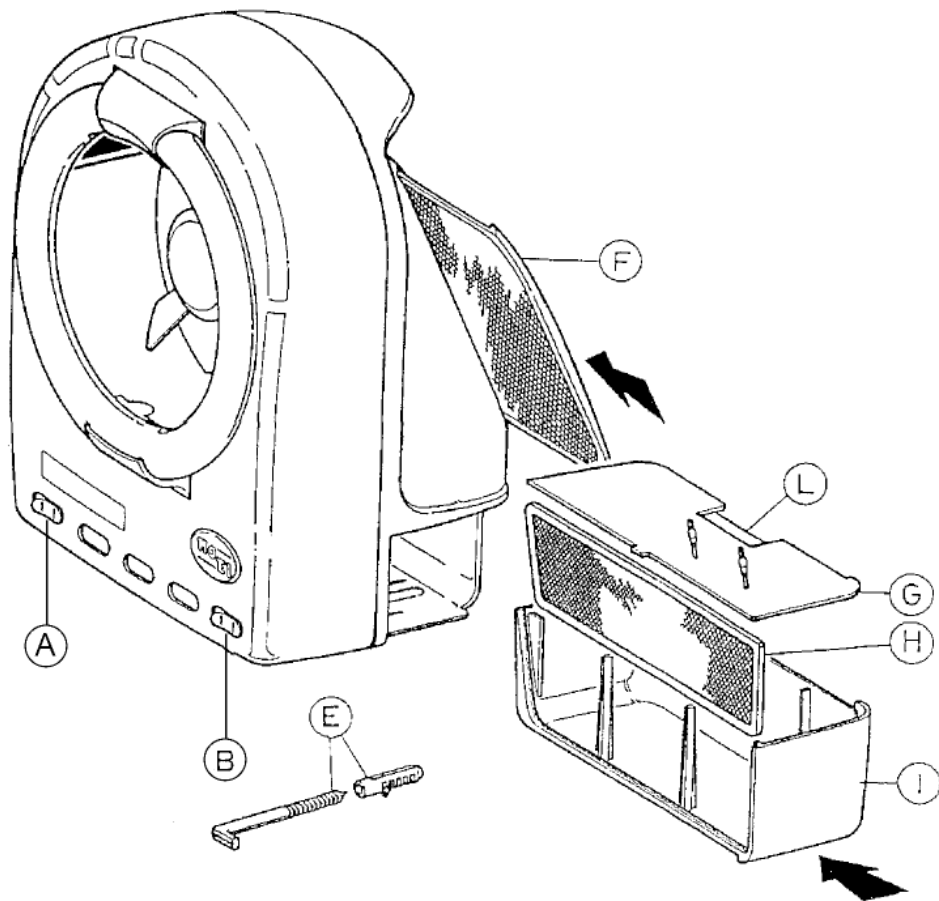

Fig.1
2. Remove all packing materials from the unit, to avoid danger of suffocation, keep it away from babies and children. If received by mail, install the filters **F** and **H** and the trap cover **G** as shown in Fig.1.
3. Si vous avez reçu le produit par la courrier, montez les filtres **F**, **H** et le couvercle du tiroir **G** (voir Fig.1).